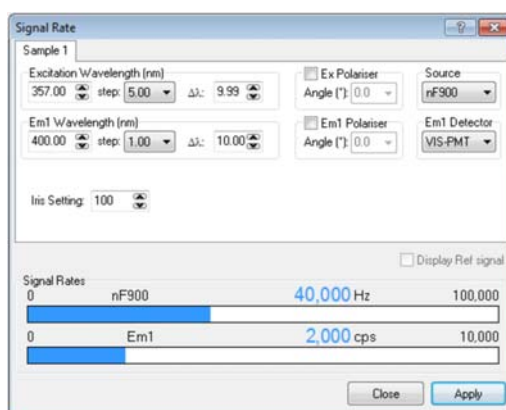

Figure 5-1: Signal Rate window for setting up time resolved measurements
1. Check the signal using the **Signal Rate** dialogue box. Ensure that the correct source has been selected (nF920 or alternative high repetition rate sources). Correct operation of the high repetition rate light source can be verified by the frequency that is displayed on the upper of the two signal rate bars, refer to Figure 5-1 on page 67 Ensure excitation wavelength and emission wavelength have been appropriately selected.